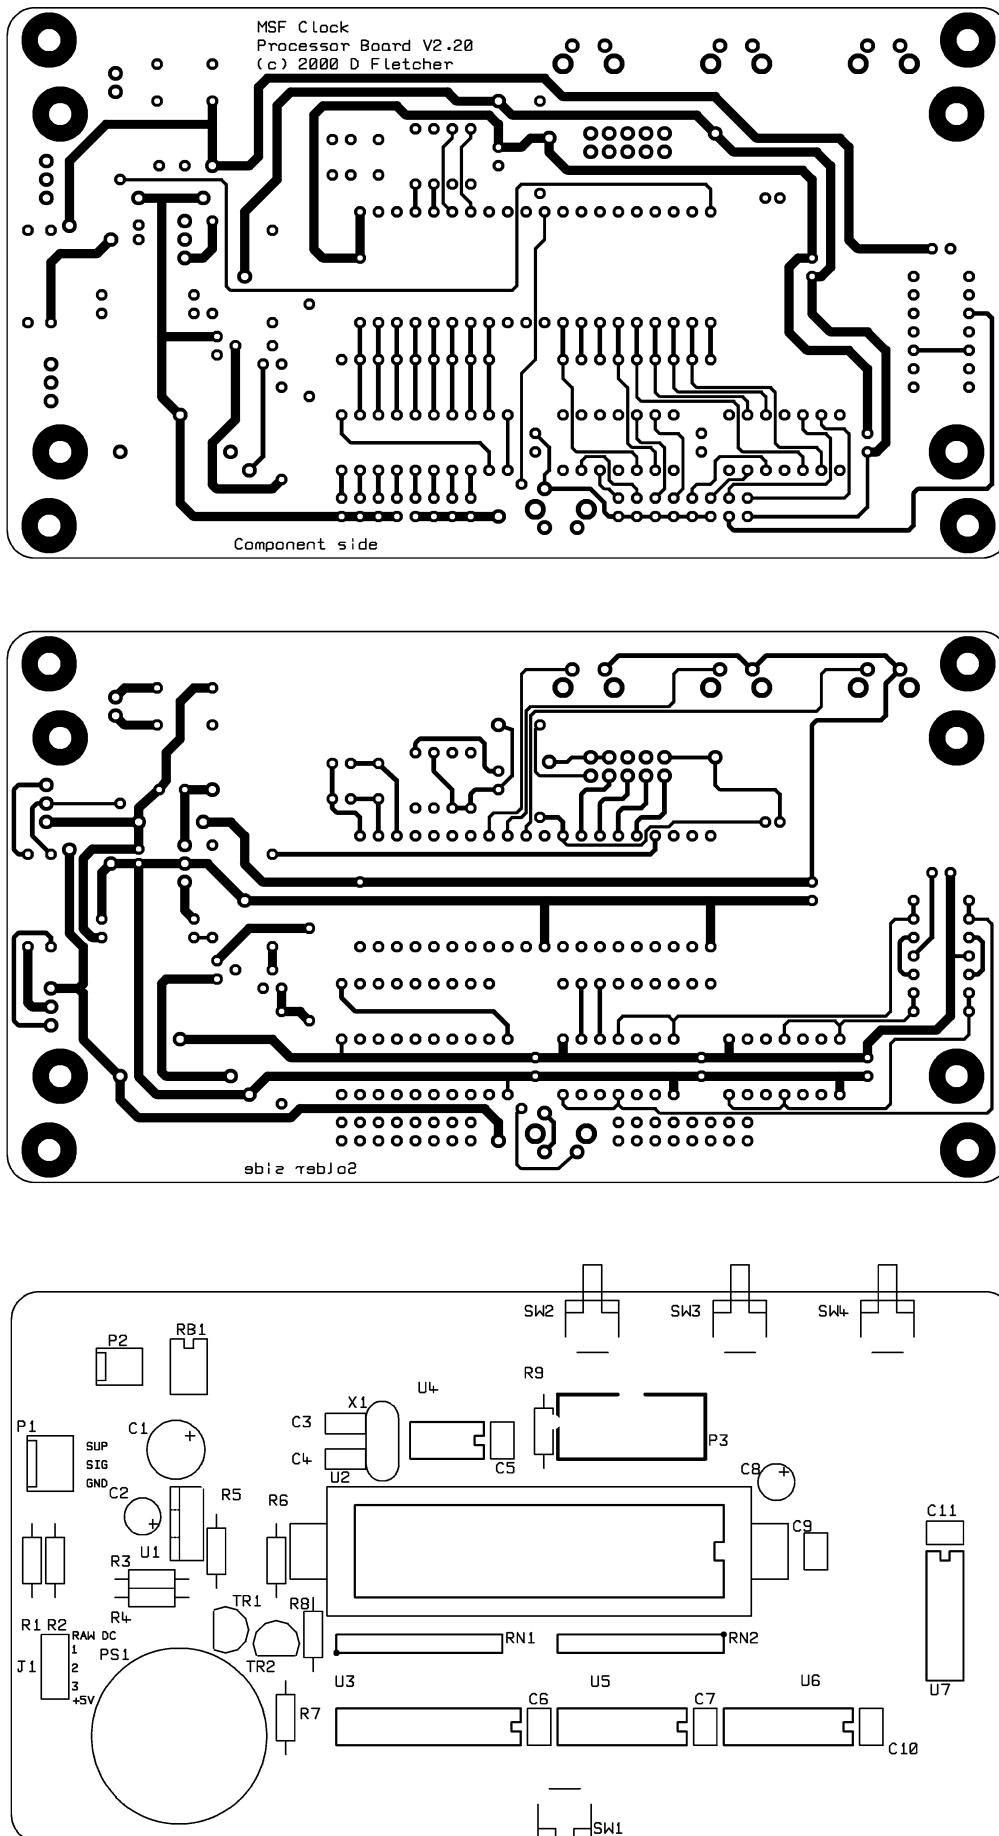

Figure 4. PCB artwork for control board (double-sided, through-plated).
- Figure 4** processor board, double-sided
Processor board (Figure 4)